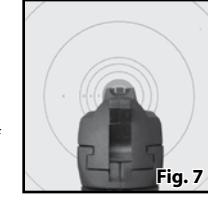

Fig. 7
- 3. The air pistol is correctly aimed when the front sight blade is positioned in the notch of the rear sight (Fig 7).